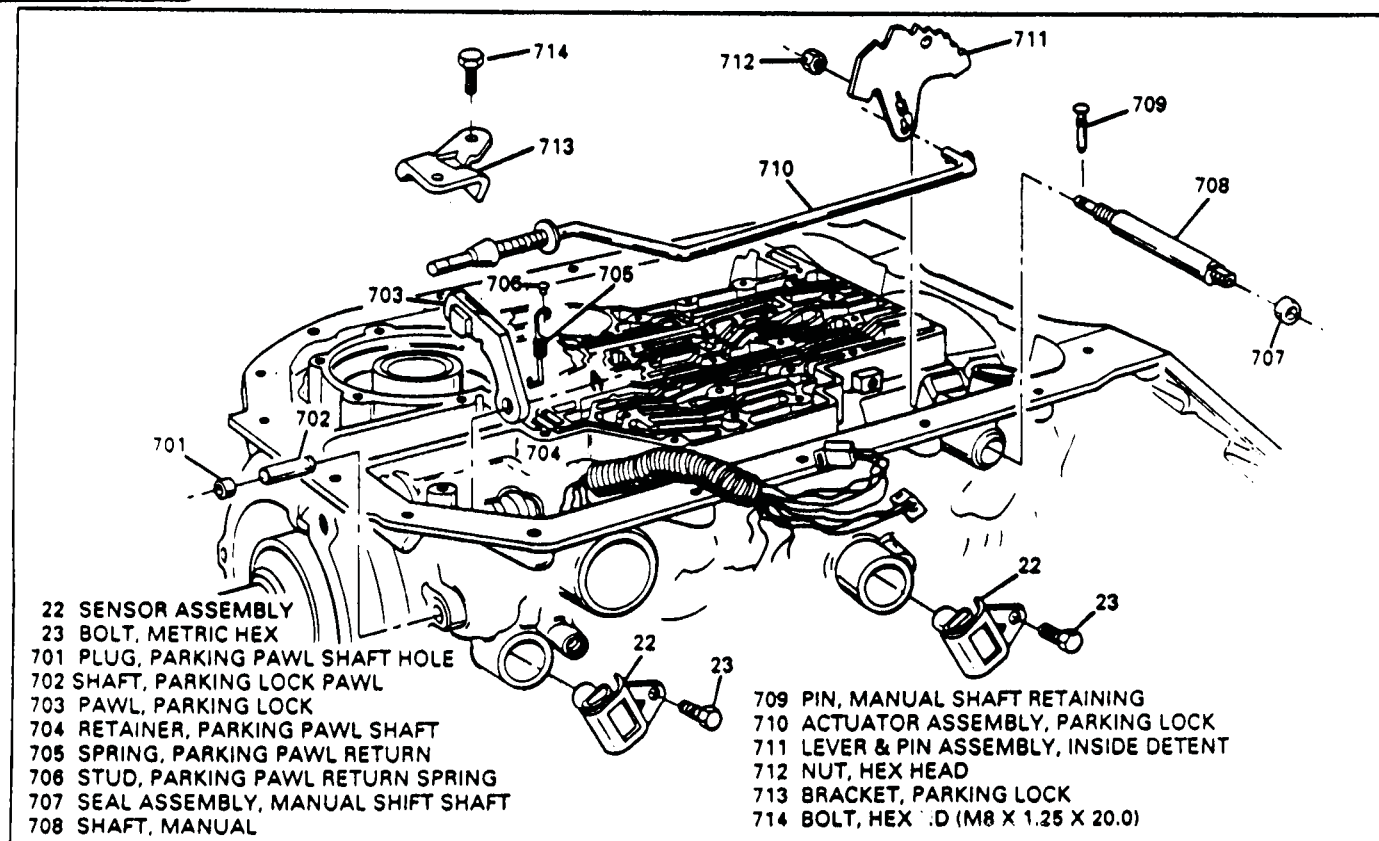

Figure 42
2. Remove the two speed sensor assemblies and retaining bolts (See Figure 42).
26. Remove two retaining bolts for parking pawl bracket (713), and remove parking pawl bracket (See Figure 42).